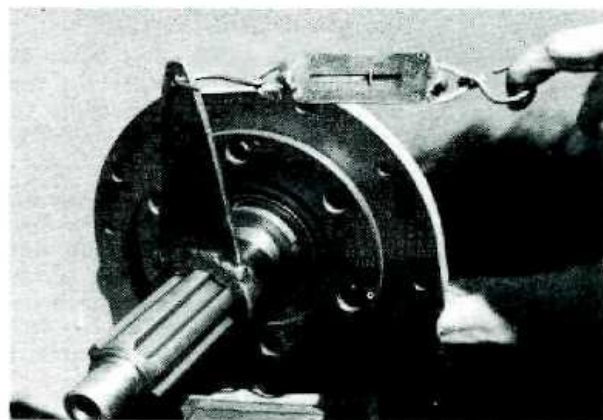

Fig. J.14 — Checking Pinion Bearing Pre-load.
5. Re-assemble the pinion to the end plate and check the pinion bearing pre-load 20-26 lbs./inches) (See Fig. J.14).